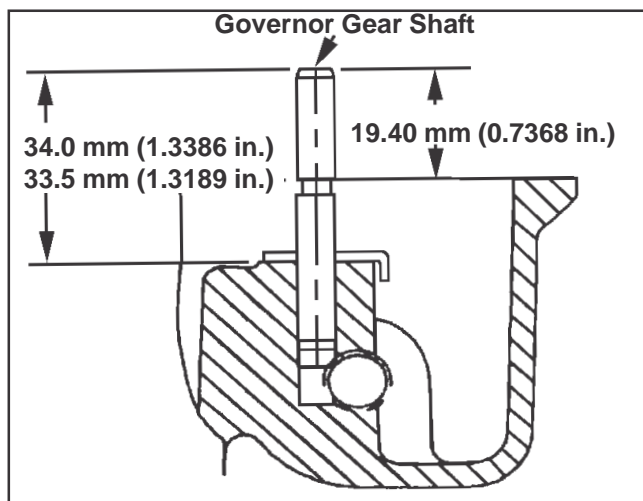

Figure 10-13. Governor Shaft Press Depth. Reassembly.
3. Carefully inspect the governor gear shaft and replace it only if it is damaged. After pulling damaged shaft, press or lightly tap replacement shaft into closure plate to depth shown in Figure 10-13.